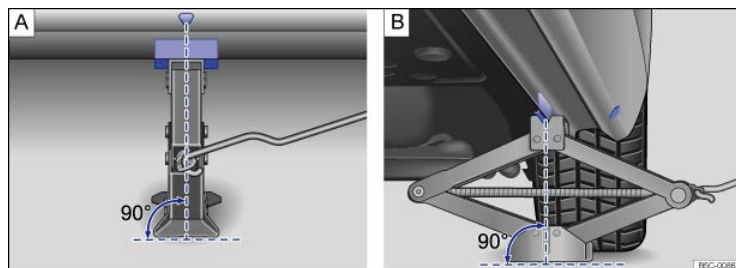

Fig. 225 Jack in position at the left rear lift point.
- Position the jack only at the described vehicle lift points. Before you raise your vehicle, always make sure the jack claw properly grips the vertical rib under the sill so that the jack does not slip off when you are raising the vehicle → Fig. 225.